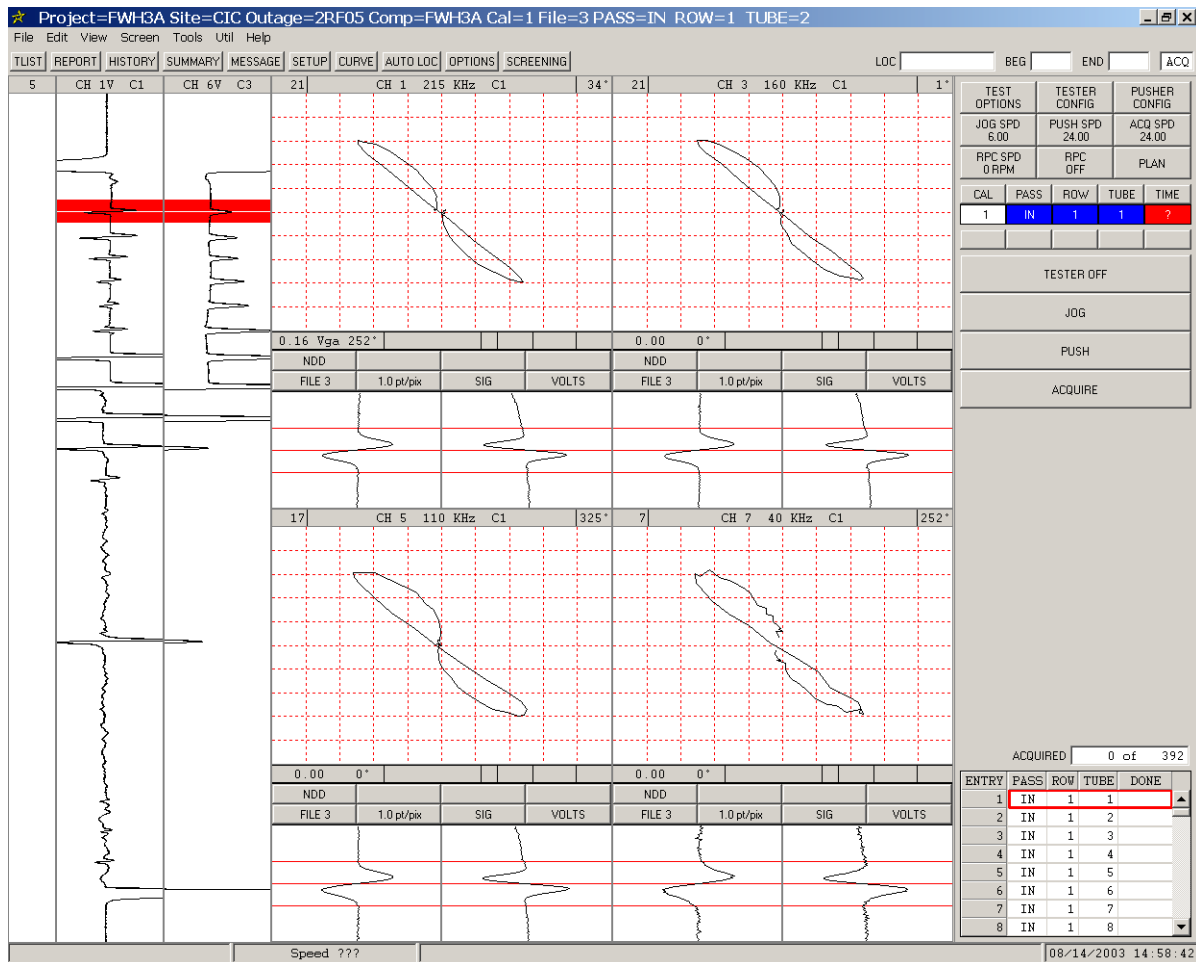

Figure 10-17. Acquisition Screen - Setting Differential Span Levels
- STEP 24:** Repeat the 2 steps above for the remaining differential channels (3, 5, & 7). The signal **Span** or size should appear similar to Figure 10-17.
Note: The voltage grid shown in Figure 10-17 is for tutorial purposes only.